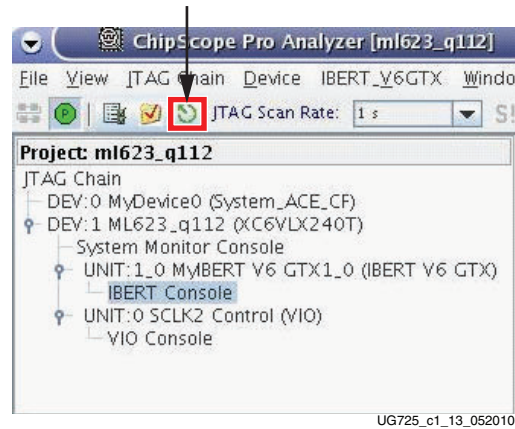

Figure 1-14: Reset All Button
4. At the top of the ChipScope Pro analyzer window, click the **Reset All** button (Figure 1-14).